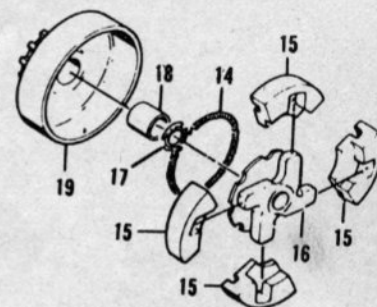
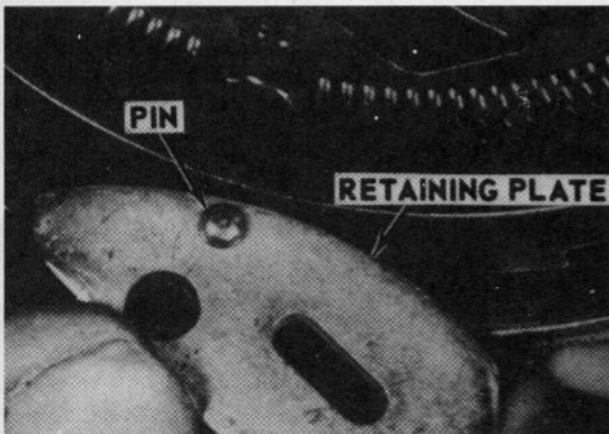

Fig. MC5-19—Exploded view of clutch used on early direct drive models except SP125 and SP125C. Later models are similar.
Fig. MC5-22—Install clutch spring (4—Fig. MC5-20) on model SP125 so that spring ends will contact locating pin in clutch spring retaining plate.
**CLUTCH.** All models except models SP125 and SP125C use the type of clutch shown in Fig. MC5-19 or Fig. MC5-22. Clutch used on models SP125
**REWIND STARTER.** Refer to Figs. MC5-22, MC5-26, MC5-27 or MC5-28 for exploded view of typical rewind starters. Rewind spring is coiled in housing in counterclockwise direction on models shown in Figs. MC5-26 and MC5-27 and in clockwise direction on models shown in Fig. MC5-22 and MC5-28. Wind rope on pulley so pulley will properly engage inner end of rewind spring when rope is pulled.